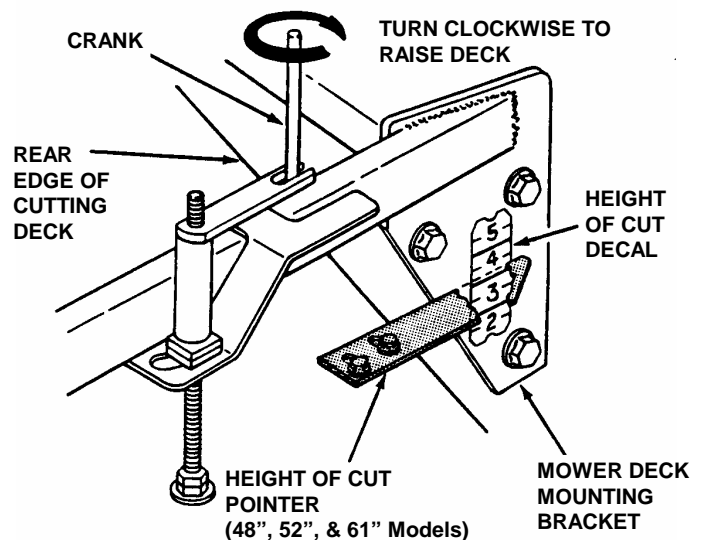

FIGURE 3.17
2. To adjust height of cut, turn both Cranks (located on right hand and left hand side of deck) clockwise to raise the Mower Deck and counter-clockwise to lower the Mower Deck. Observe the height of cut decal located on the side of the Mower Deck mounting plates and move the height of cut pointers in the same desired position. See Figure 3.17.